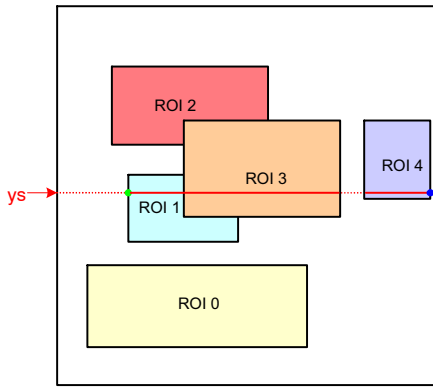

Figure 23. Scanning the Image Array with Five Windows
Figure 23 illustrates a practical example of a configuration with five windows. The current position of the read pointer (*ys*) is indicated by a red line crossing the image array. For this position of the read pointer, three windows need to be read out. The initial start position for the *x*-kernel pointer is the *x*-start configuration of ROI1. Kernels are scanned up to the ROI3 *x*-end position. From there, the *x*-pointer jumps to the next window, which is ROI4 in this illustration. When reaching ROI4’s *x*-end position, the read pointer is incremented to the next line and *xs* is reinitialized to the starting position of ROI1.
- The read pointer is not necessarily incremented by one, but depending on the configuration, it can jump in *y*-direction. In Figure 23, this is the case when reaching the end of ROI0 where the read pointer jumps to the *y*-start position of ROI1